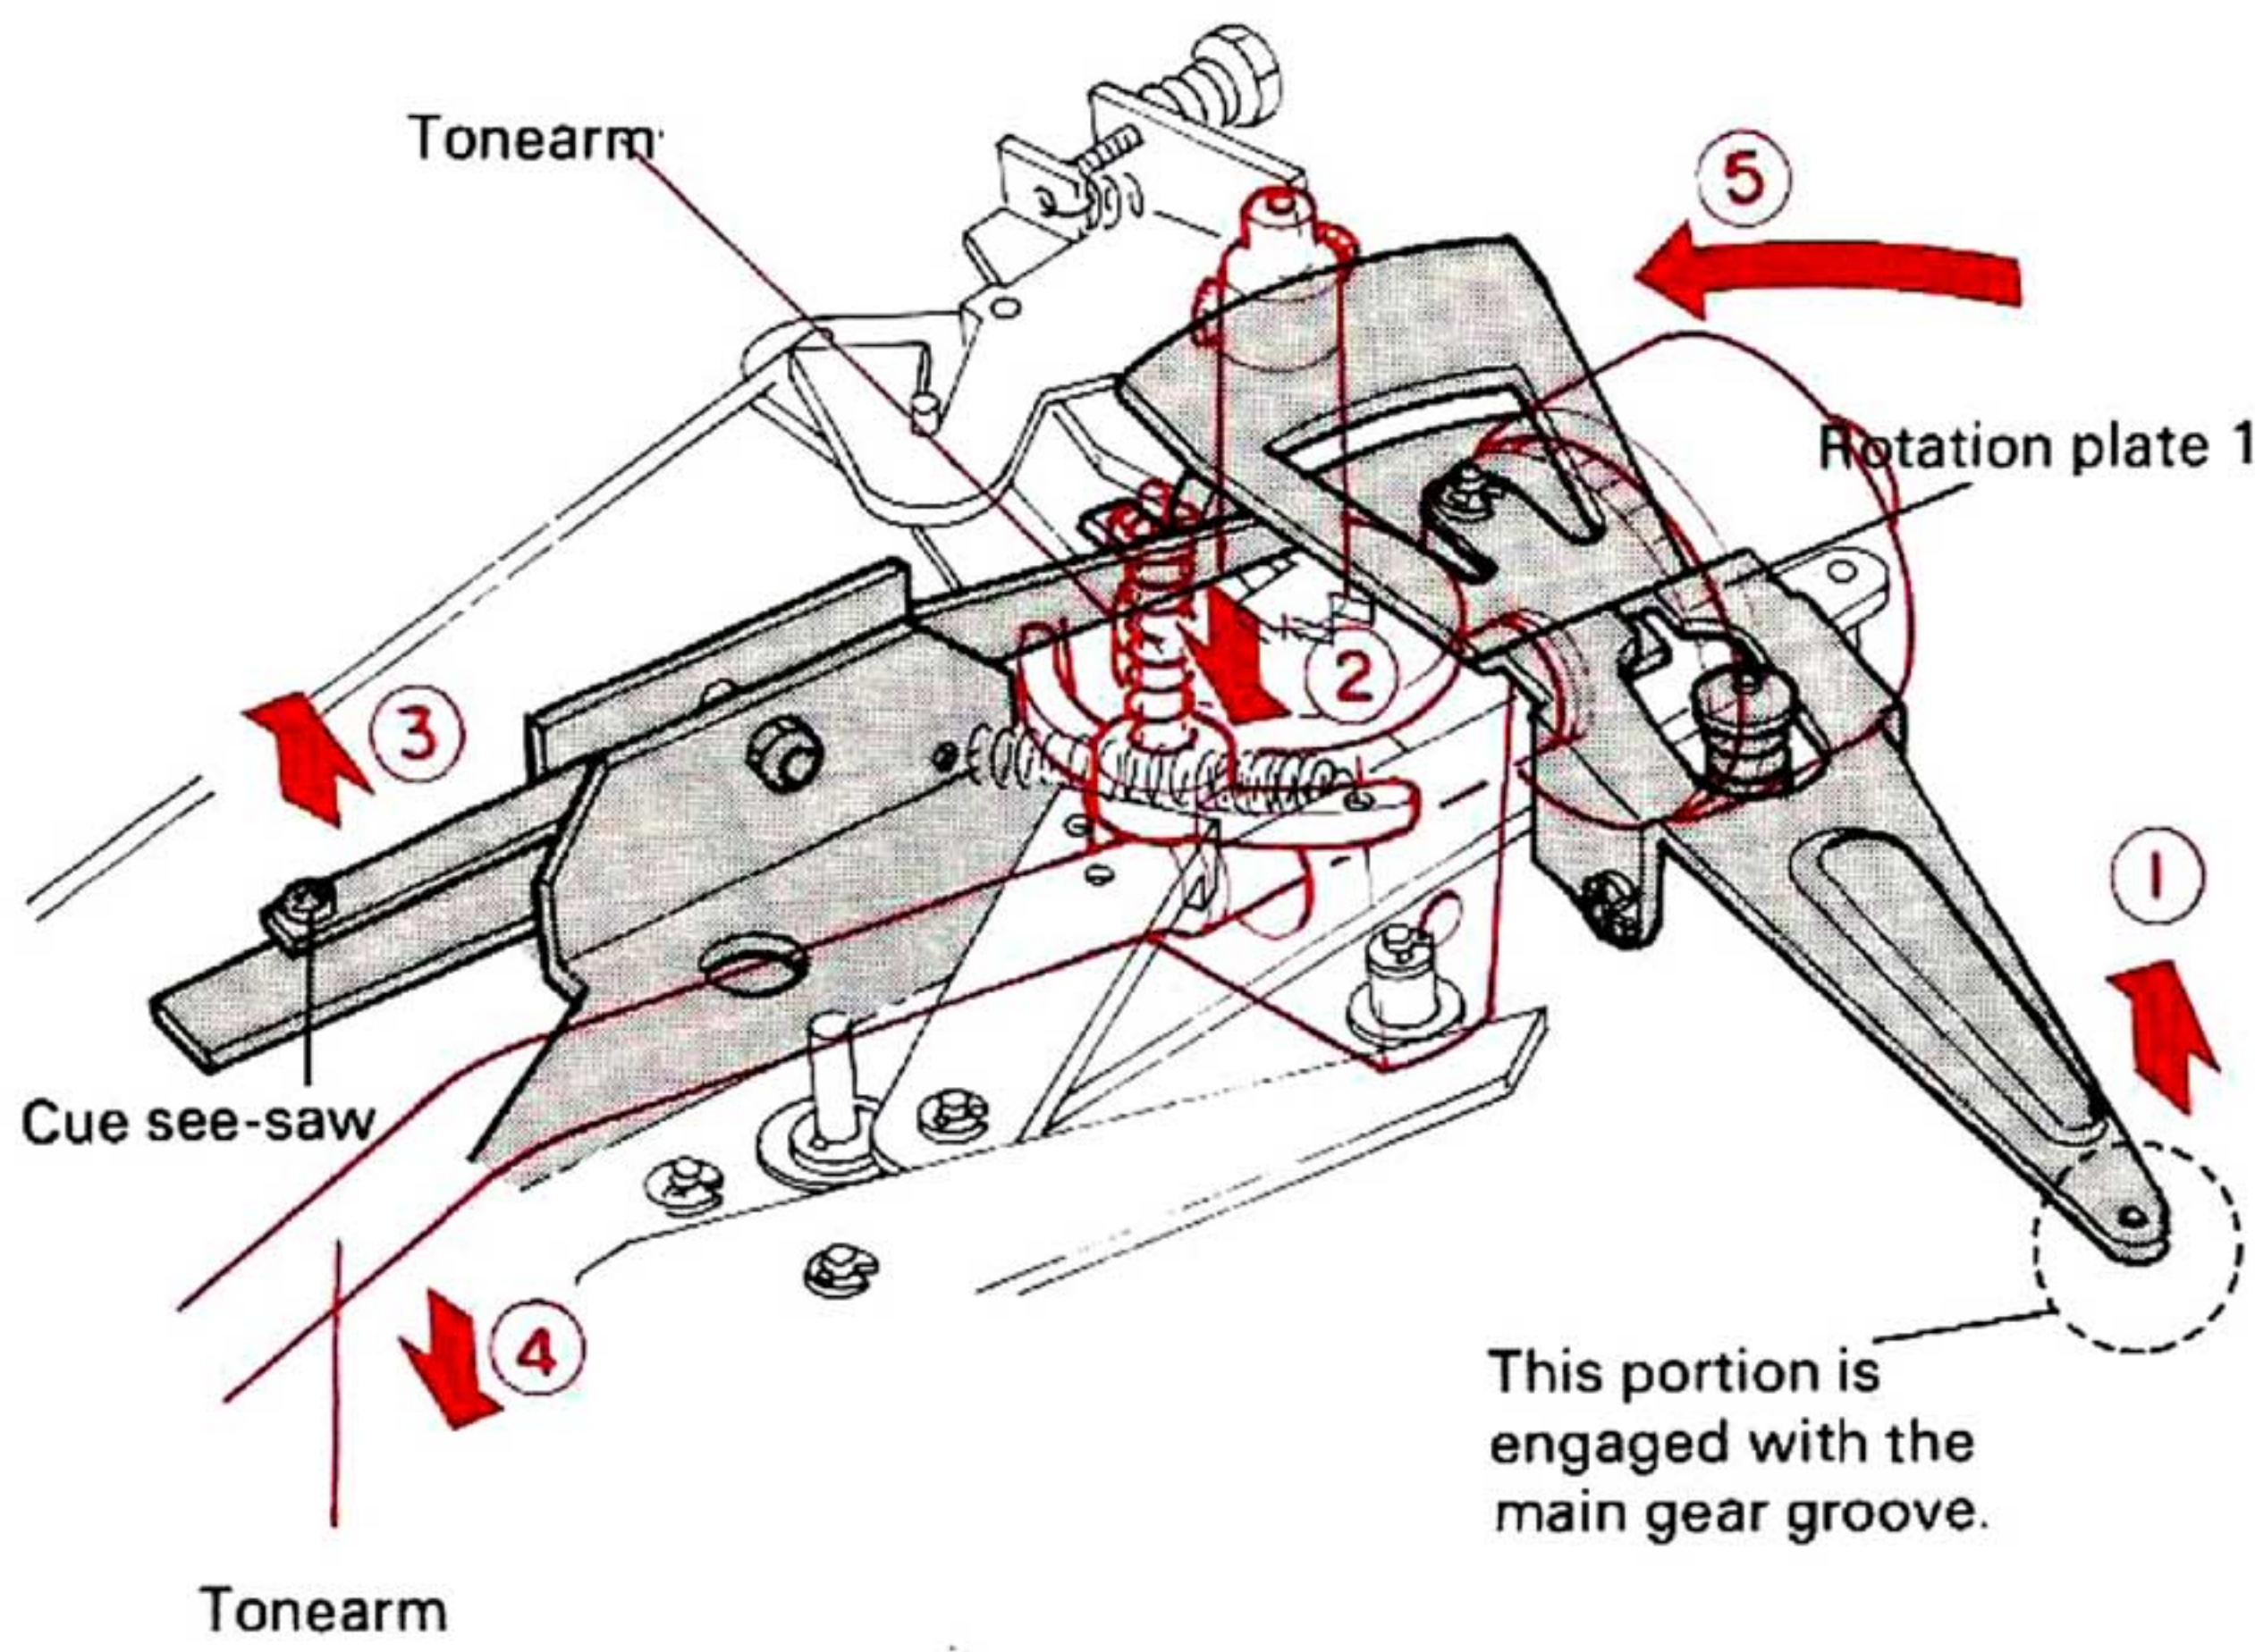

Fig. 11 Elevation of Tonearm
As the main gear begins to rotate, the depth of the main gear groove where the rotation plate 1 follow becomes shallower and the rotation plate 1 moves in direction ①. Rotation plate 1 raises the tonearm elevator and the cue see-saw in directions ② and ③ respectively to raise the tonearm up (direction ④). Right after this motion, rotation plate 1 starts to rotate in direction ⑤ due to the action of the main gear (Fig. 11).